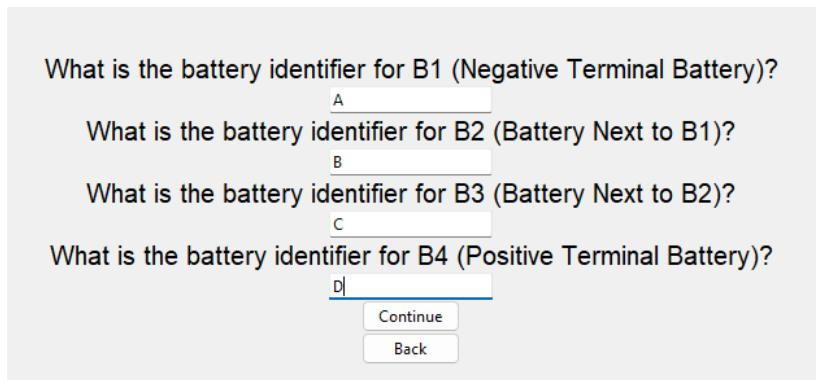

Figure 3.6 - Selecting the Battery's Letter Identifier (TS)
3: Next, the screen shown in figure 3.6 will be displayed. Select the identifiers for all four batteries and then press “Continue”. Press “Back” to return to the main menu. If the letter identifier is unknown or there is no letter identifier, choose “None.” Generally, quad pack batteries are numbered with a letter (Example: A) or letter than number (Example: A1) (TS).